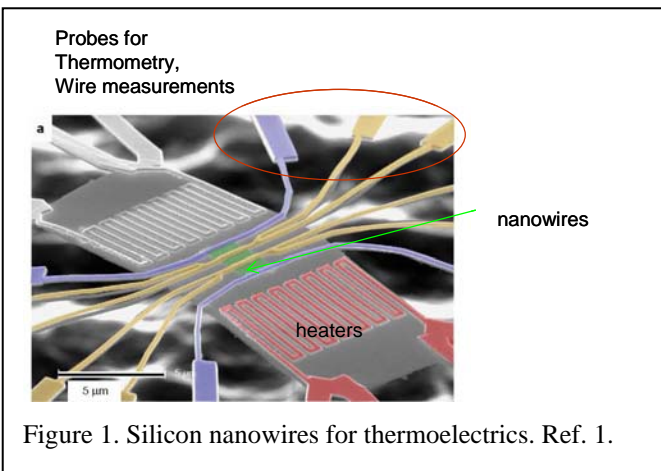
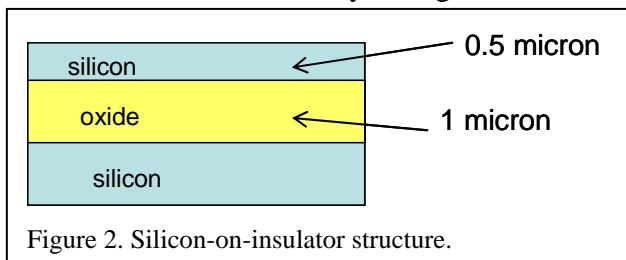

Figure 1. Silicon nanowires for thermoelectrics. Ref. 1.
Figure 2. Silicon-on-insulator structure.
There has been some interest in *Silicon Nanowires* as new *thermoelectric* materials. These are materials that could convert differences in temperature to differences in electrical potential, so that we could either (a) actively cool structures by applying an electrical signal (voltage) or (b) make better use of excess heat that is generated (such as heat from the operation of high density integrated circuits). Figure 1. shows a device structure that was used recently to evaluate the quality of Si nanowires (which you can't see clearly in the figure).¹ You have all the process skills you need to create a series of nanowires from silicon, if you begin with *silicon on insulator* starting material (Figure 2).
1. The starting material will be the 'SOI' material shown in Figure 2, with a half-micron of Silicon on top of 1 micron of silicon oxide. *You* can specify the doping of the silicon.